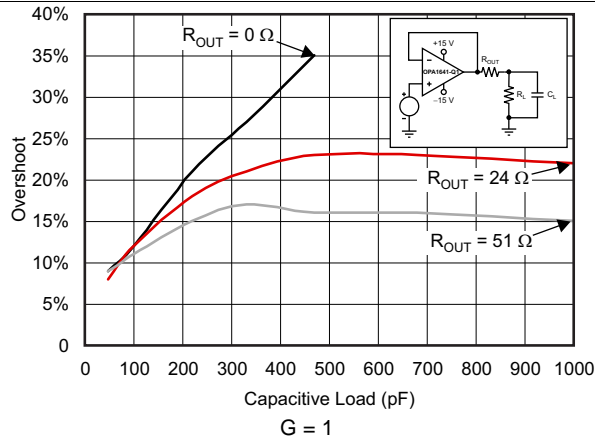
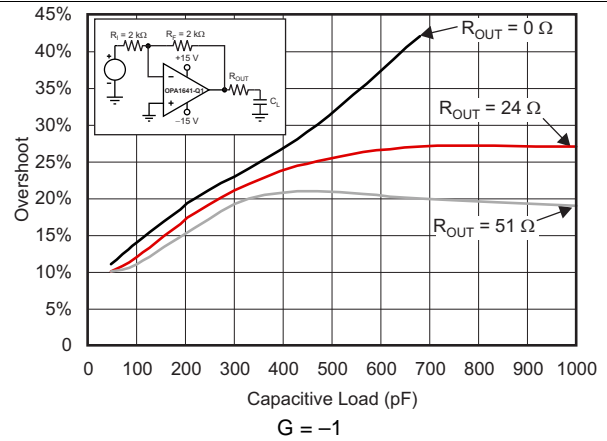

图 19. Small-Signal Overshoot vs Capacitive Load (100-mV Output Step)
图 20. Small-Signal Overshoot vs Capacitive Load (100-mV Output Step)
(1) Full power bandwidth =  $SR / (2\pi \times V_P)$ , where SR = slew rate.
(2) See Figure 19 and Figure 20.
**图 19** and **图 20** illustrate graphs of *Small-Signal Overshoot vs Capacitive Load* for several values of  $R_{OUT}$ . For details of analysis techniques and application circuits, see Feedback Plots Define Op Amp AC Performance available for download at [www.ti.com](http://www.ti.com)